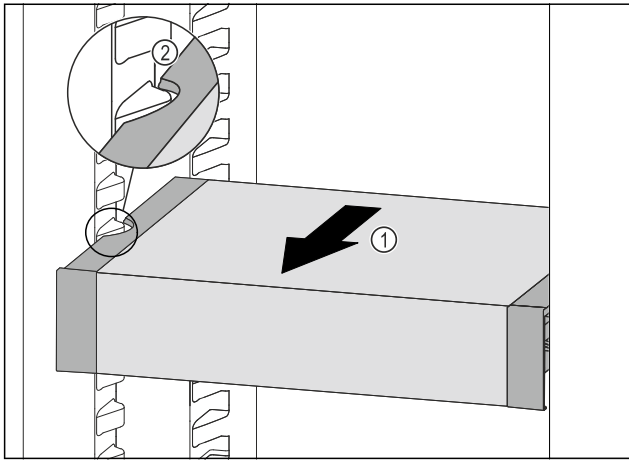

Fig. 72
- ▶ Pull VarioSafe forwards Fig. 72 (1) until the recesses in the side of the VarioSafe are at the level of the support rib in the refrigerator compartment. Fig. 72 (2)